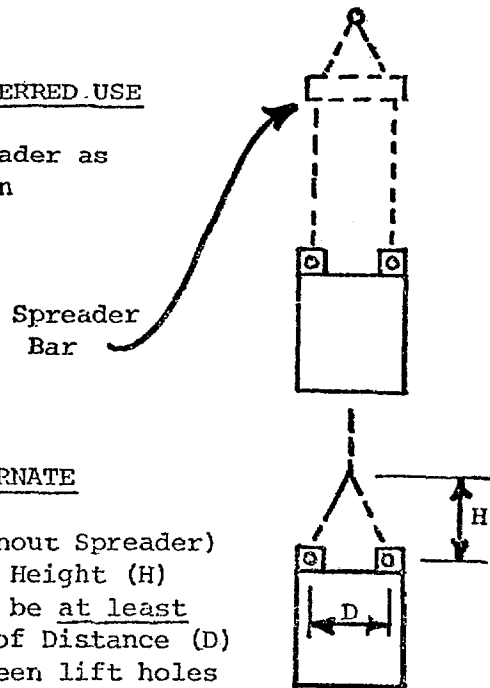

FIGURE 1
SEE CASE LIFTING INFORMATION OF FIGURE 1.
**SEE CASE LIFTING INFORMATION OF FIGURE 1.**